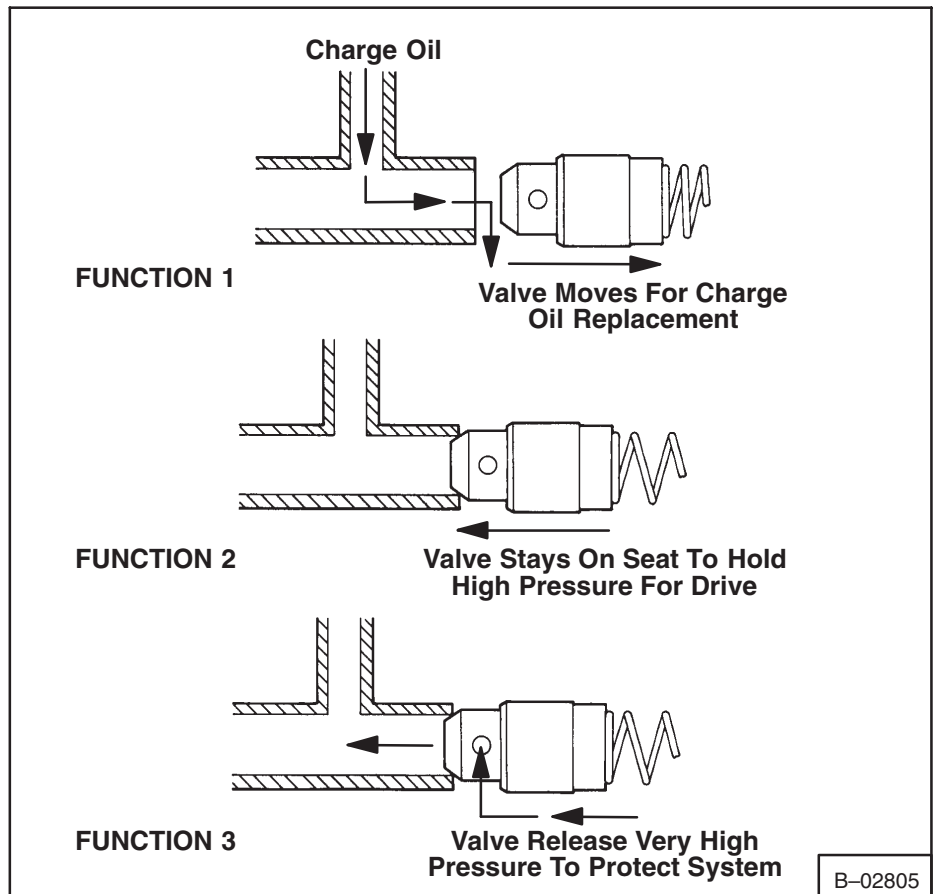

Fig. 3-1 Replenishing Valves (Forward)
1. To give replacement oil to the low pressure side of the closed hydrostatic circuit. Replacement oil is needed because of normal inside leakage and the controlled flow to the oil cooler for cooling purposes (Fig. 3-1, Function 1 & Fig. 3-2, Function 1).
2. To keep high pressure flow of oil out of the low pressure side of the closed hydrostatic circuit (Fig. 3-1, Function 2 & Fig. 3-2, Function 2).
3. To release high pressure caused by a heavy load of the machine when moving forward (Fig. 3-1, Function 3).